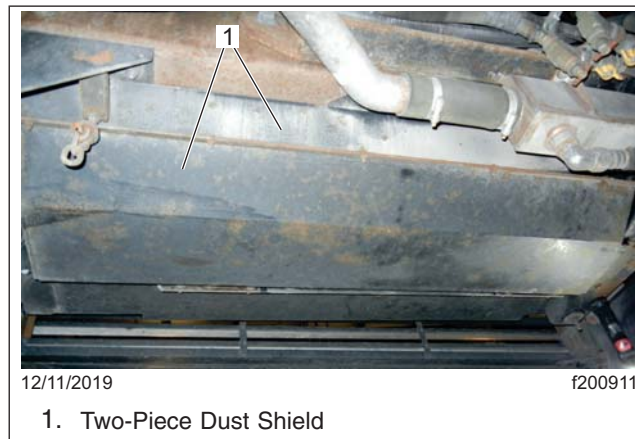

Fig. 4, Two-Piece Dust Shield
2. Remove the two-piece dust shield, if so equipped. See Fig. 4 for an example of the dust shield.